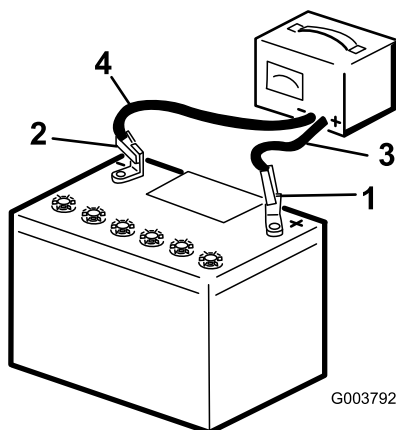

Figure 84
5. When the battery is fully charged, unplug the charger from the electrical source, then disconnect the charger leads from the battery posts (Figure 84).
3. Connect the negative lead of the battery charger to the negative-battery post (Figure 84).